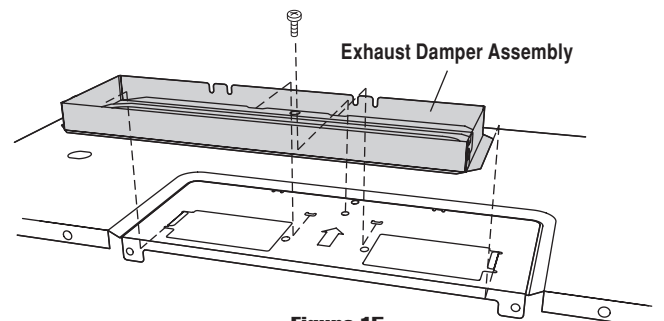

Figure 15
6. Attach the Exhaust Damper Assembly to the fan cover on the top of the outercase cabinet by sliding it into the slits in the same direction as the arrow. Use 1 Tapping Screw 4 x 12 mm from the INSTALLATION HARDWARE and tighten into place. See Figure 15.